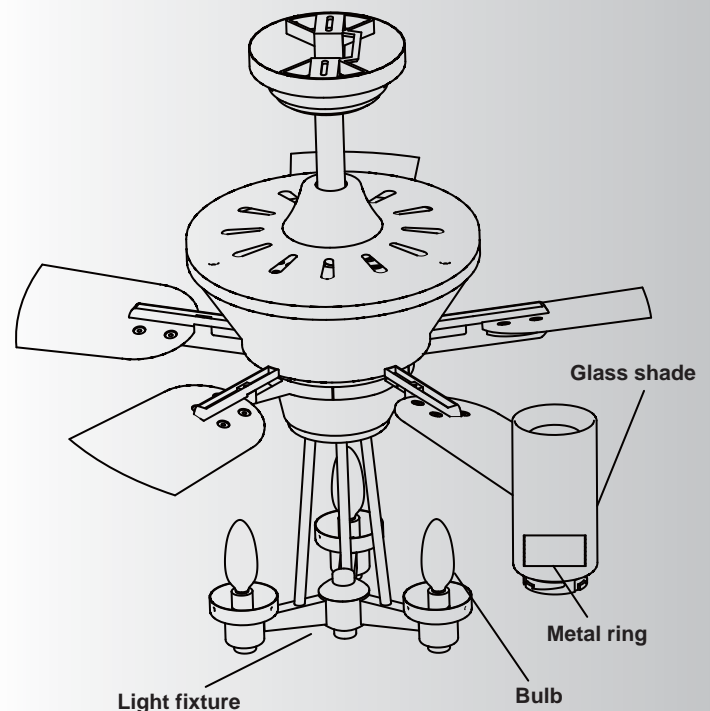

Fig. 21
Step 2. Tuck the connections neatly into the switch housing. Align the key holes on the switch housing with the screws on the mounting plate. Turn the light fixture until it locks in place at the narrow end of the key holes. Tighten all 3 screws previously loosened. (Fig. 21)
Step 3. Install a bulb in one of the fixture sockets (60 watt candelabra base). Lower a glass shade over the bulb and twist clockwise lightly (about 1/4 turn) until the shade is secured. Repeat for remaining sockets. (Fig. 21)